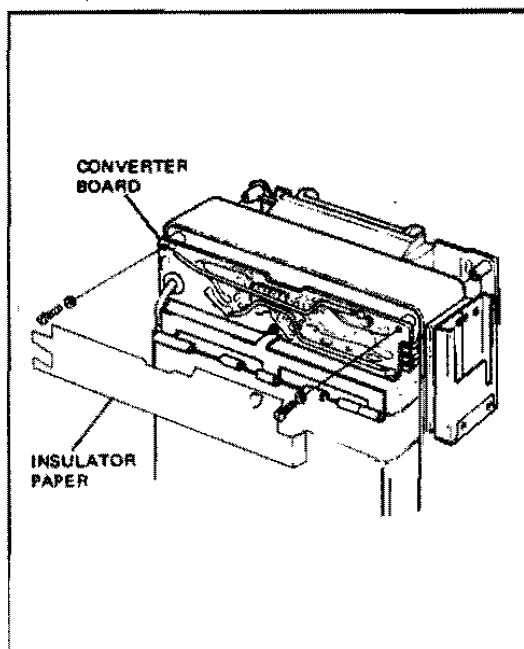

FIG. 4-30 LOCATION OF RETAINING SCREWS
- e. Remove the two pan head retaining screws and washers from the converter board (Figure 4-30), releasing the battery compartment.